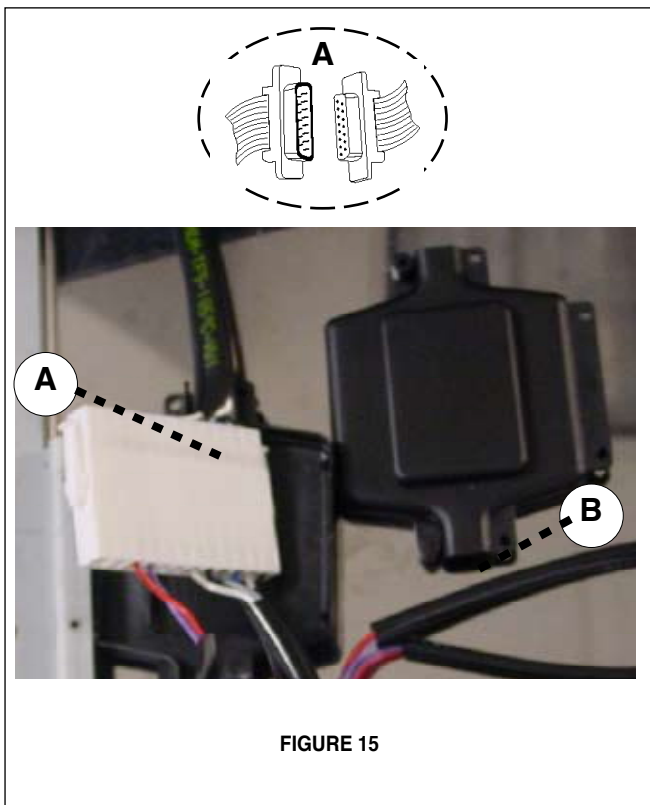

FIGURE 15
5. Connect the CONTROL CABLES together as indicated in A in FIGURE 15. Insert the connected CONTROL CABLES (A in FIGURE 15) into the black plastic CONNECTOR BOX (B in FIGURE 15) by connecting the two black plastic pieces using the four screws provided.